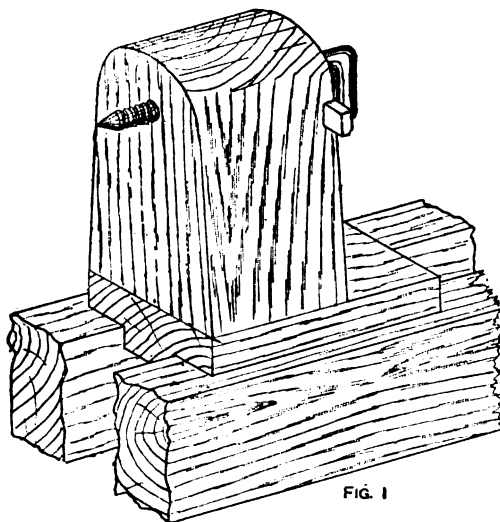

FIG. 1
**Wooden Tailstock for Lathe.**—A wooden tailstock for a lathe is shown by Figs. 1, 2, and 3. The body part is in two pieces, beech or birch or similar hard wood will be suitable. The centre may be formed of a bolt with a